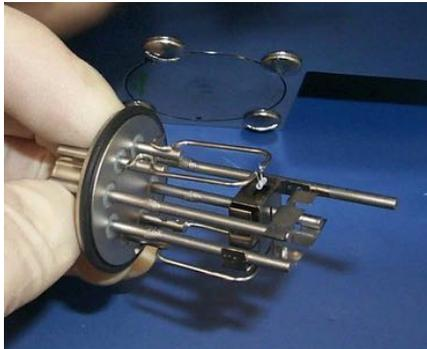
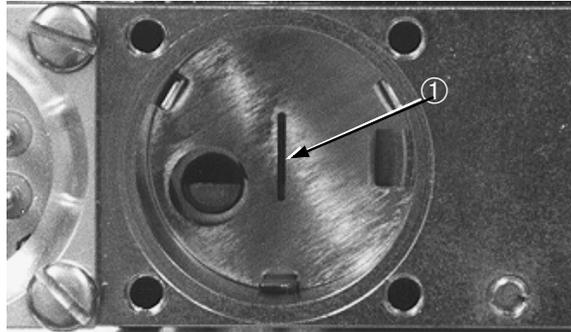

Figure 5-10 The Ion Source
Figure 5-11 Ion Source Cavity
4. Examine the ion source (Figure 5-10) and cavity (Figure 5-11) for deposits and discoloration. When examination is completed, dispose of it properly or return it to Vacuum Technologies for exchange.
The ion source cavity (Figure 5-11) contains the ground slit plate ①.
9. Examine the ion source (Figure 5-10 on page 5-11) and cavity for deposits and discoloration. When examination is completed, discard the ion source or return it to Vacuum Technologies for exchange.
10. Inspect the ground slit plate (Figure 5-17 on page 5-15) and ion source cavity (Figure 5-11 on page 5-12) to verify that they are clean. If not, follow applicable instructions in Section 5.3.6 “Examining and Cleaning the Spectrometer Parts” on page 5-15 to clean the spectrometer body and ground slit plate.